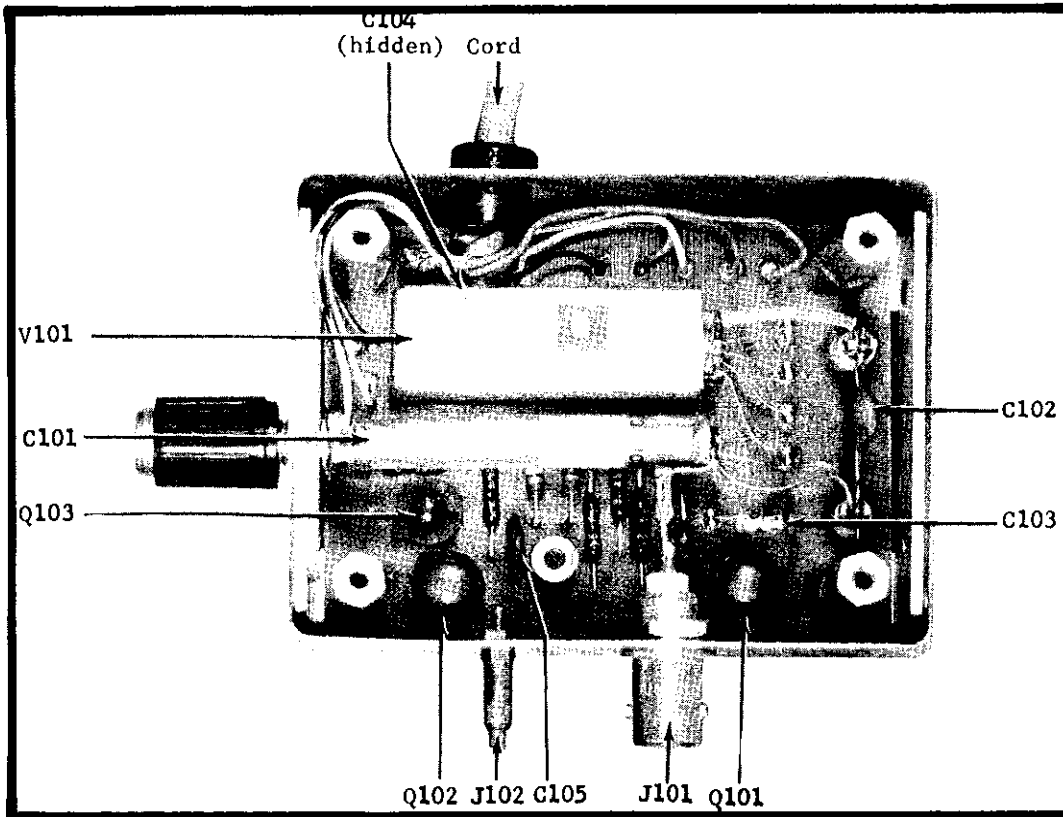

FIGURE 8. Capacitor, Connector, Transistor and Tube Locations Within the Input Head. Resistor Locations are shown in Figure 9.
- c. Zero the output by setting the Coarse Zero Divider, P102 (Figure 8), to the proper position. The proper position may be found by the method of trial and error (See also paragraph 4-3d). Always keep one vacant terminal between the two connectors. Final adjustment should be made with the front panel control.